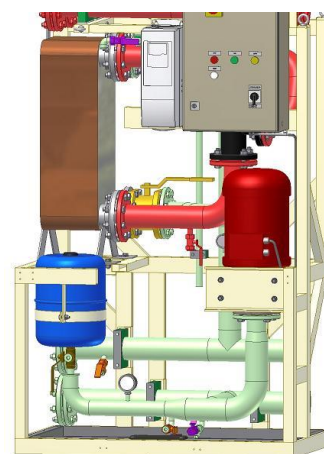

Figure 3.1-8
- Valves V161...V162 open (violet colour in Figure 3.1-8)
- Valve V160 lever down (brown colour in Figure 3.1-8)
- Valve V140 closed (yellow colour in Figure 3.1-8)
- Valves V230, V232 closed (orange colour in Figure 3.1-8)